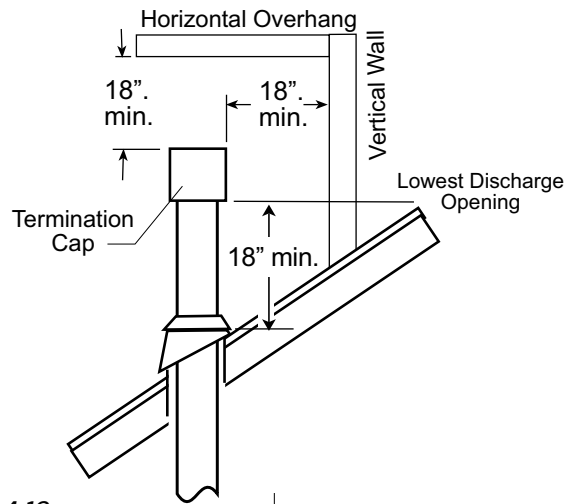

Figure 4.10.
- **Vent Terminus Clearance:** In no case shall any discharge opening on the cap be less than 18 in. (457 mm) vertically or horizontally from any roof surface or wall. See fig. 4.10.